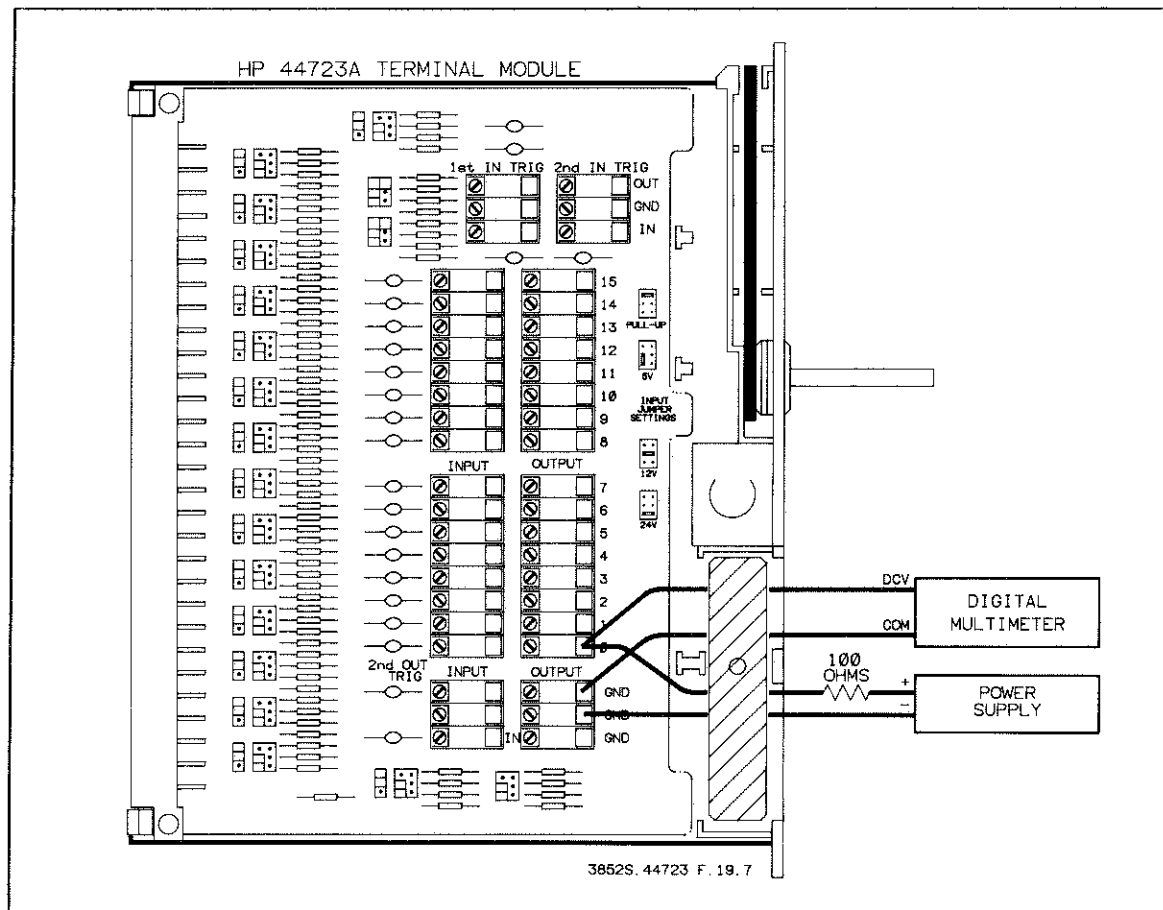

Figure 19-7 Open Collector Sink Current Test
18. Change ALL output jumpers on the terminal module to open collector outputs as shown in Figure 19-7.